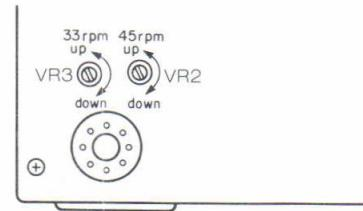

Fig. 26
(E) Alignment of Rotation Speed (Figure 26)